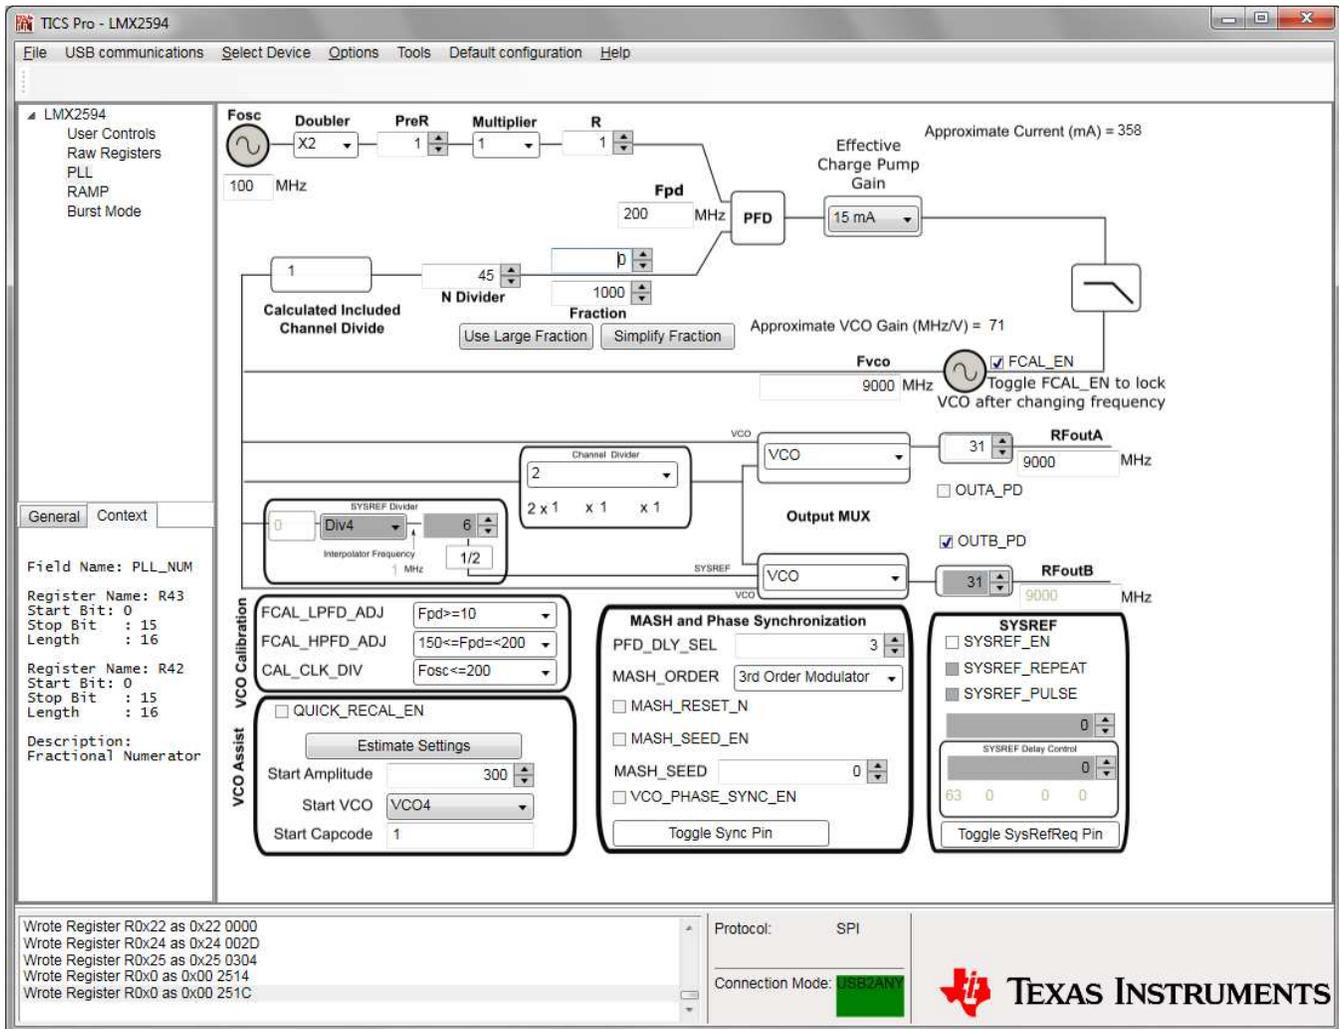

Figure 4. TICSPRO Software Setup
2. To start the software, open the *TICS PRO.exe* from the installed directory. Figure 4 shows the user interface.